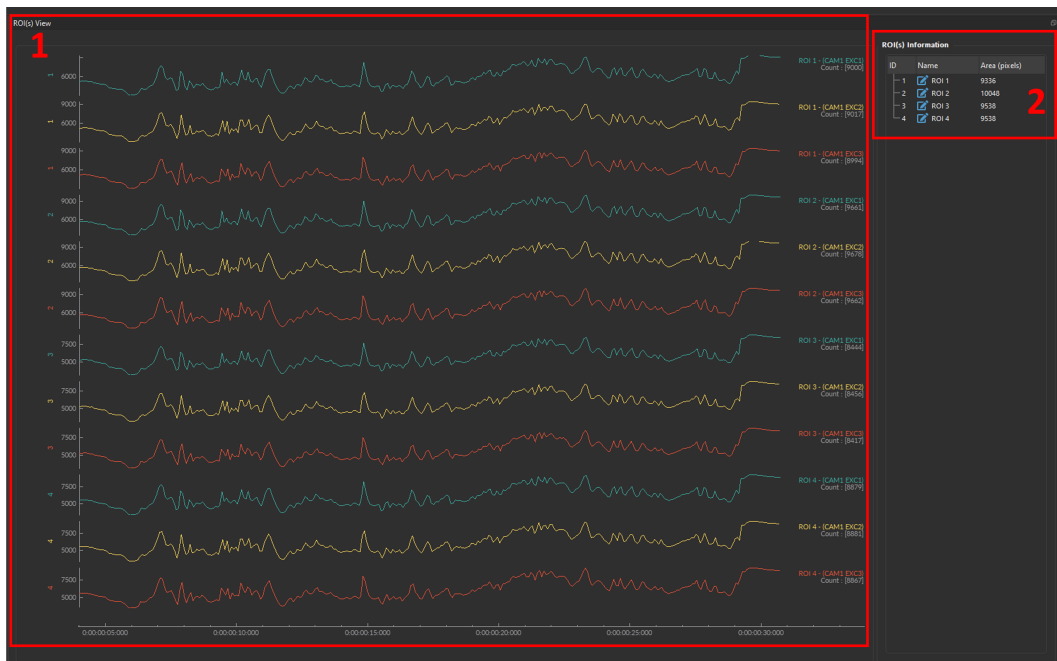

Figure 13.43: ROI(s) View
1. The **ROI(s) signal graph** (Fig. 13.43, 1) displays the raw signal trace for each ROI(s).
2. **ROI(s) Information** Tab (Fig. 13.43, 2) displays a table with ROI basic data, including: